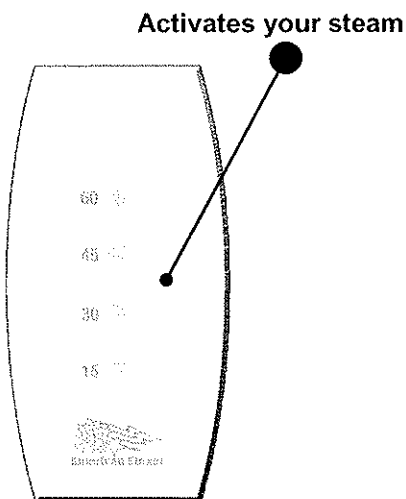

Figure 12
1. **Starting your steam bath.** Press "STEAM" button to activate your steam bath session. 60 minute LED will light up. (See Figure 12.)